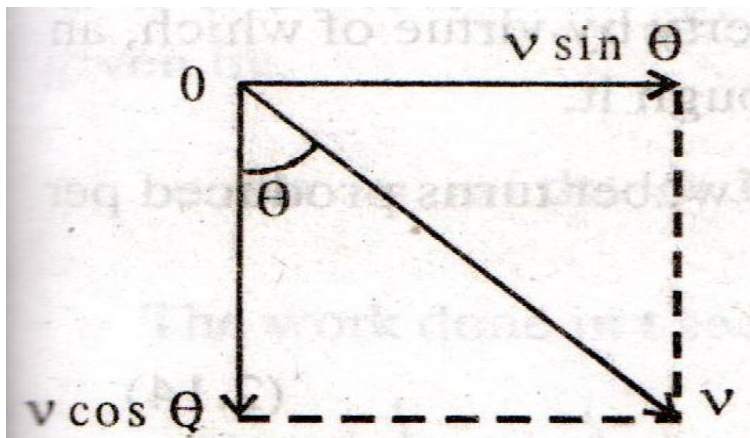

Fig:1.2.8(b) Changing angle  $\theta$
3. When the conductor moves in the direction III, of making an angle  $\theta$ , with the direction of magnetic lines of flux with the velocity  $v$ , the component of velocity perpendicular to the direction of flux is  $v \sin \theta$ , as shown in fig 1.2.8 (b). Hence, the emf induced in the conductor is  $B l v \sin \theta$